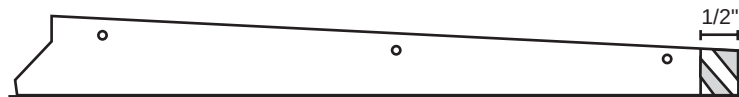

Fig. 3 — Trim Section Shown on Air Seal
6. Notch air seal by trimming 0.5" off the rear lip of the air seal to give proper drainage (See Fig. 3).